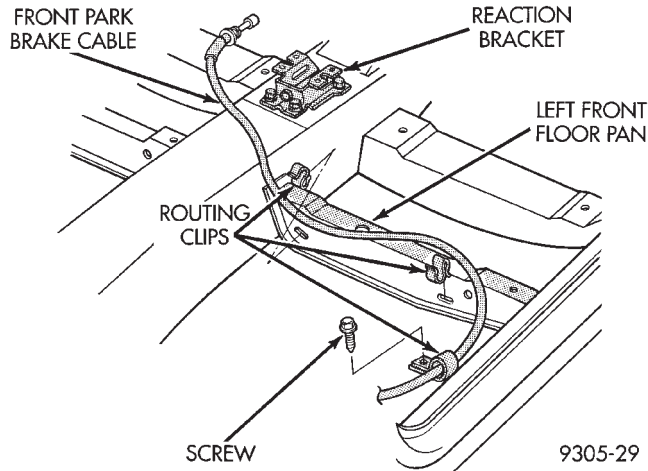

Fig. 111 Park Brake Cable Routing And Clipping
(10) Remove front park brake cable from reaction bracket (Fig. 111). Remove screw, attaching park brake cable routing clip to left front floor pan (Fig. 111). Remove front park brake cable from the 2 routing clips attached to the floor pan crossmember (Fig. 111).
mounting hole in reaction bracket. Install front park brake cable to reaction bracket retaining clip. Be sure retaining clip is fully installed on cable. Install front park brake cable into equalizer (Fig. 111).
(7) Install the park brake cable routing clip to floor pan attaching screw (Fig. 111). Torque the routing clip to floor pan attaching screw to 4 N·m (35 in. lbs.). Install front park brake cable into routing clips on floor pan crossmember.